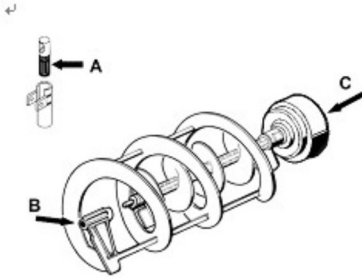

figure 7
- 2, Lubricate the faucet piston, inside auger and outer spiral (see points A,B and C of figure 7) only with the grease supplied by the manufacture or other “food grade approved ”lubricant.